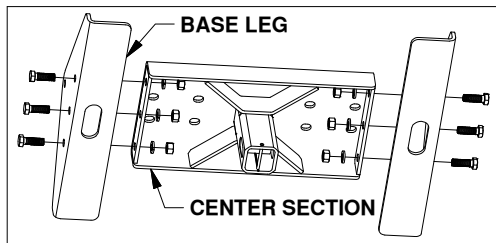
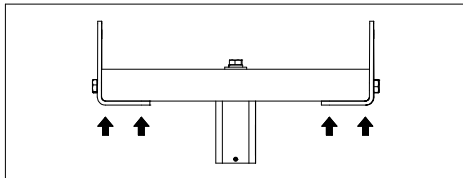

FIGURE A1: Underside view of center section and legs.
FIGURE A2: Front view of center section and legs.
1. Locate six 1/2" cap screws, 1/2" split lock washers and, 1/2" nuts. Pass three cap screws through the outside of each base leg and hand tighten each cap screw with a split lock washer and nut as shown in figure A1. While securely holding each leg against the bottom of the center section, torque each bolt to 80 ft-lbs, see figure A2.